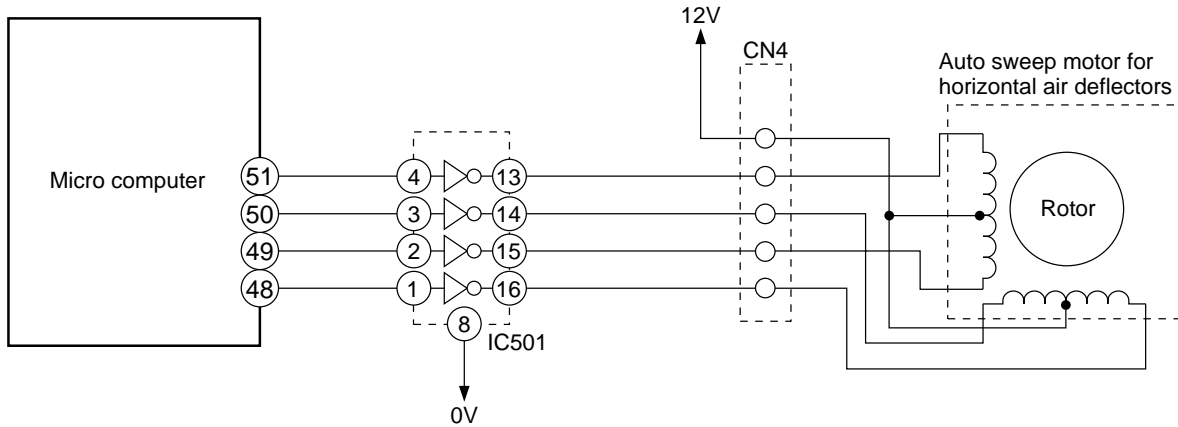

Fig. 4-1 Auto Sweep Motor Circuit (Horizontal air deflectors)
- Fig. 4-1 shows the Auto sweep motor drive circuit; the signals shown in Fig. 4-2 are output from pins ④⑧—⑤① of the micro computer.